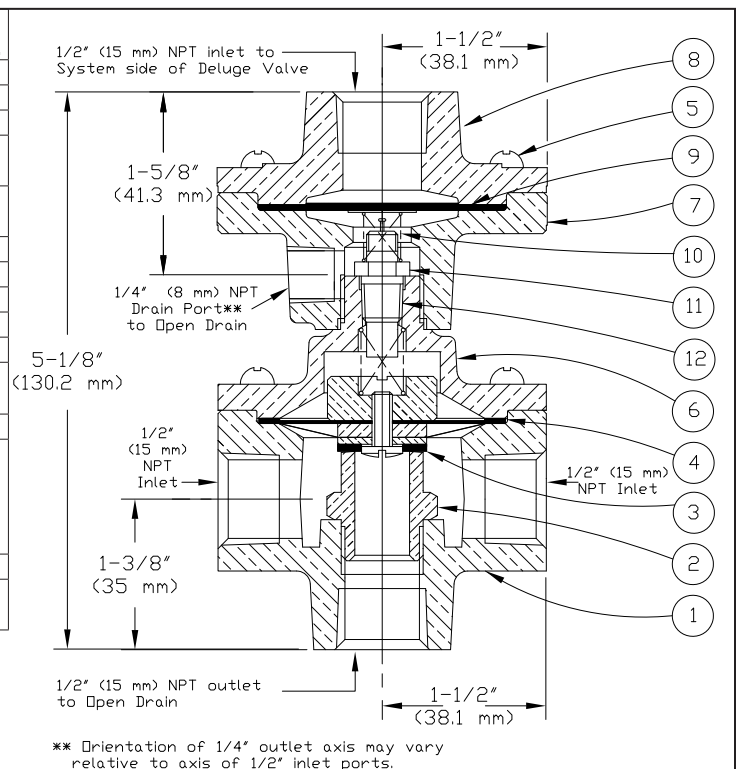

Figure 1 - Replacement Parts
B. DISASSEMBLY AND REPLACEMENT PARTS: (Refer to Figure 1)
3. Unscrew and separate the cover (6) and body (1) assembly from the end cover (8) and base (7) assembly using a pipe wrench.